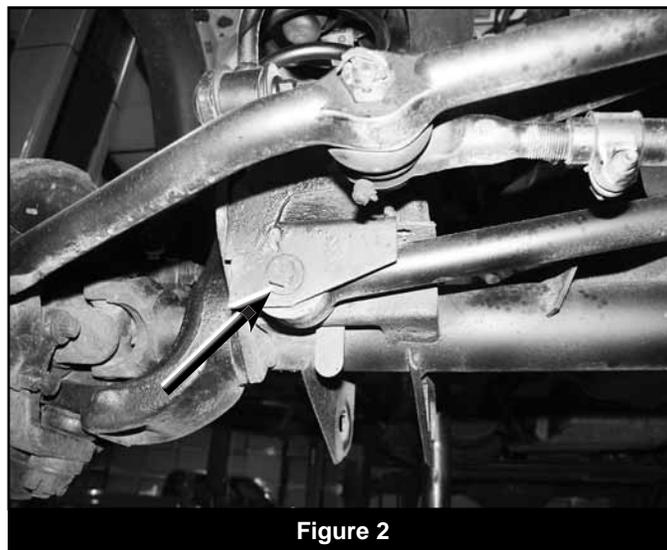

Figure 2
7. Disconnect the front track bar from the passenger's side axle mount (Fig 2). Discard hardware.